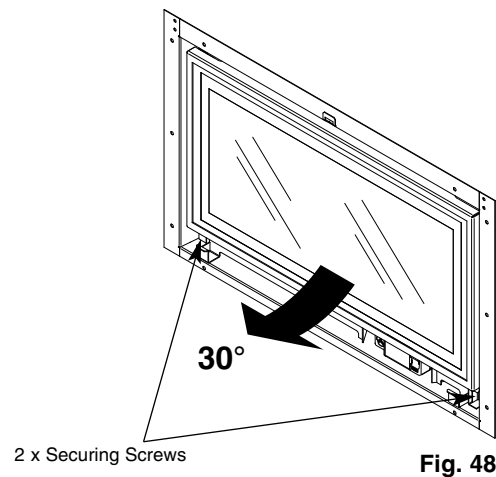

Fig. 48
1. Remove the two screws at the bottom of the glass door panel (Fig. 48).
2. Hinge the door upwards by approximately 30° (Fig. 48).